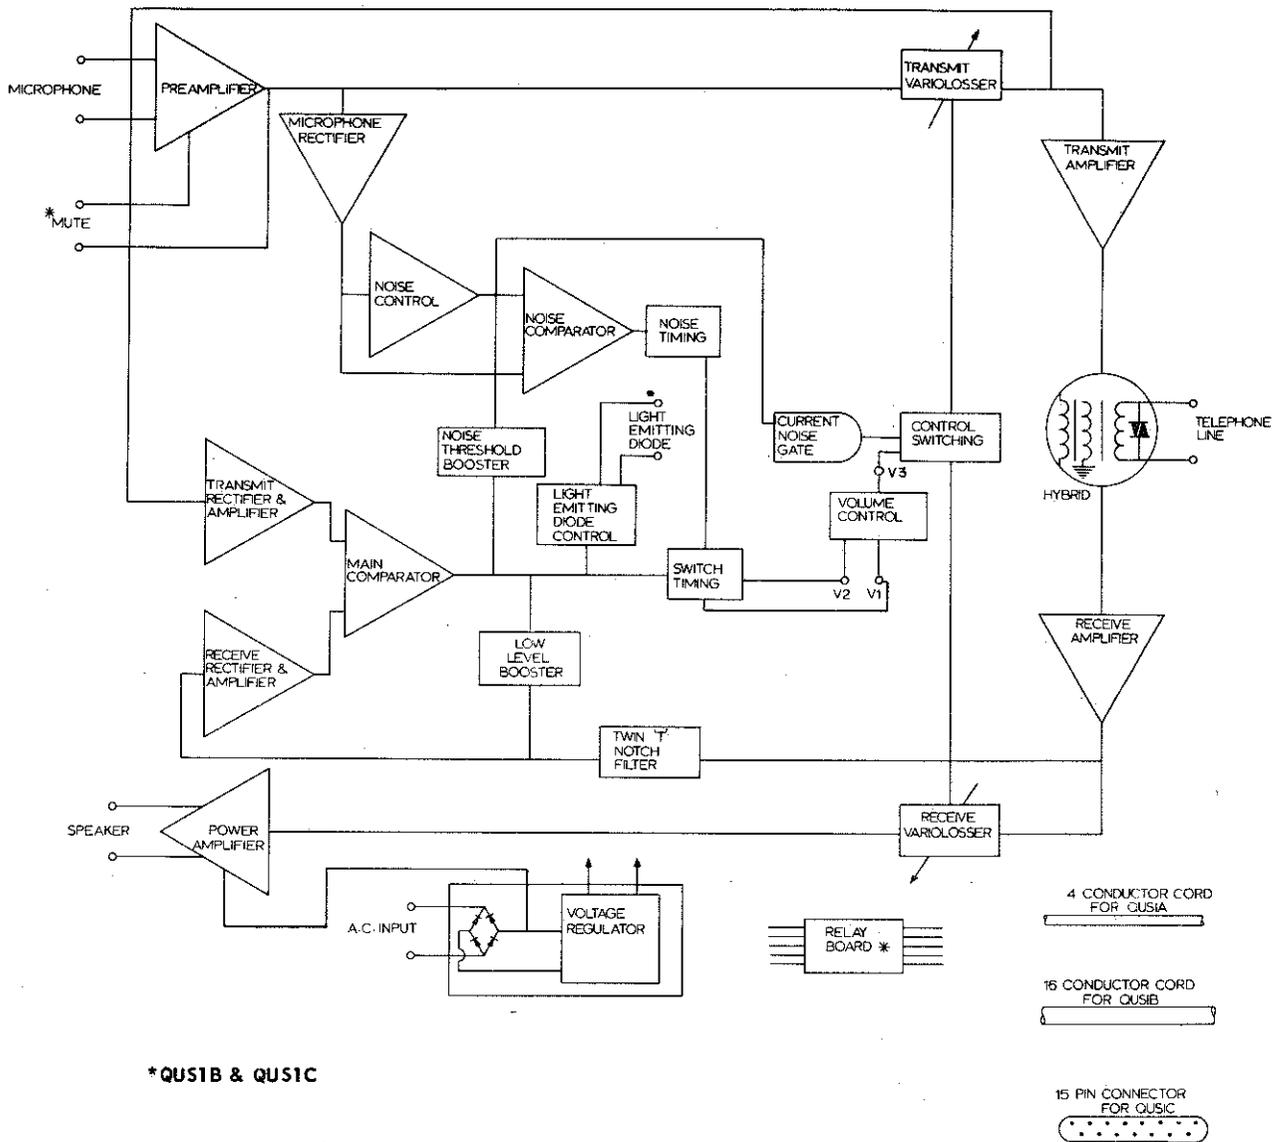

Fig. 4 — Simplified Block Schematic of the PCB
3.01 The hands-free unit (see simplified block diagram, Fig.4) operates in one of three modes; transmit, receive or standby. In the active modes, when either the line (receive) or the voice (transmit) signal is greater than the other, the corresponding channel (receive or transmit) is switched-on. This prevents oscillation due to speaker/